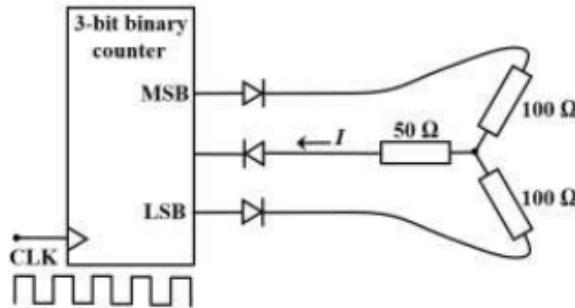

Fig. 5.5
5. For the 3-bit binary counter shown in Fig. 5.5, the output increments at every positive transition in the clock (CLK). Assume ideal diodes and the starting state of the counter as 000. If output high is 1V and output low is 0V, find the current I (in mA) flowing through the 50Ω resistor during the 5th clock cycle (up to one decimal place). (GATE IN 2018)